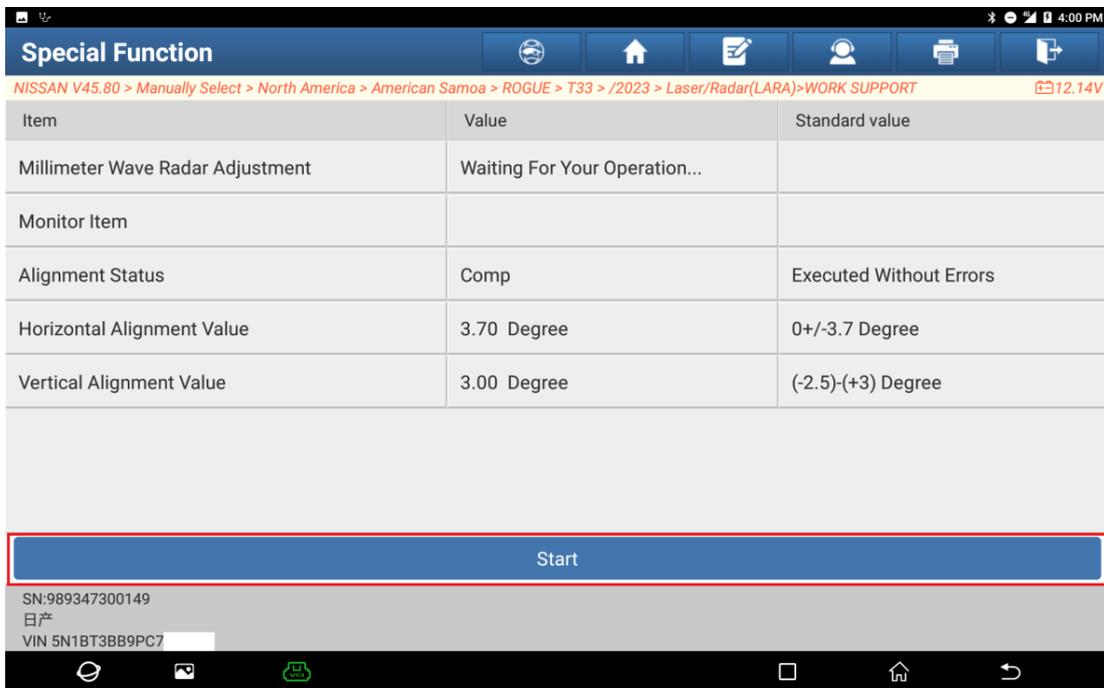

Figure 18
16. Click [Start] to perform the millimeter wave radar adjustment operation (as shown in Figure 18).